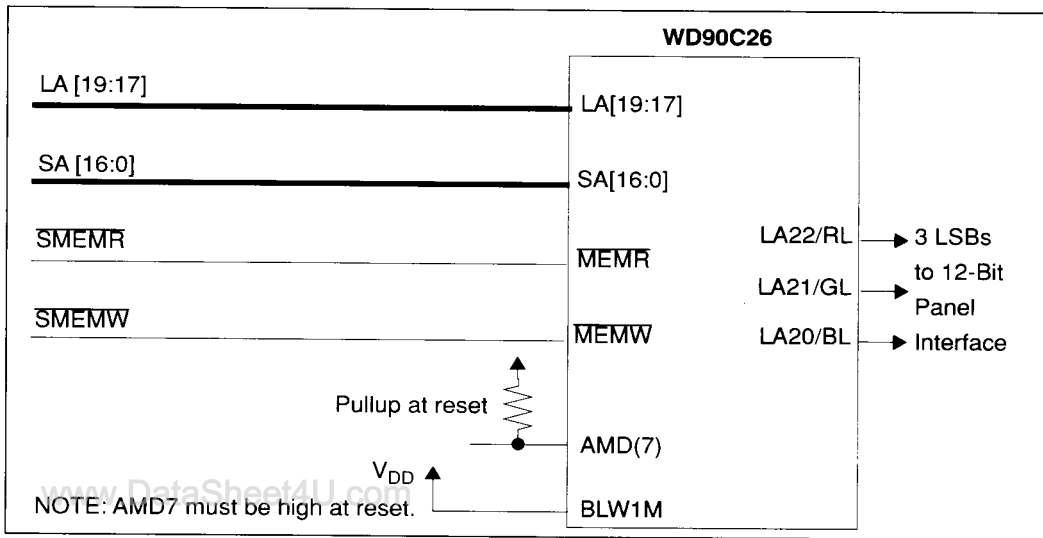

FIGURE 6-26 USING SMEMR AND SMEMW WHEN CONNECTING A 12-BIT RGB PANEL INTERFACE
- Using $\overline{\text{SMEMR}}$ and $\overline{\text{SMEMW}}$ when Connecting a 12-Bit RGB Panel Interface (Figure 6-26)